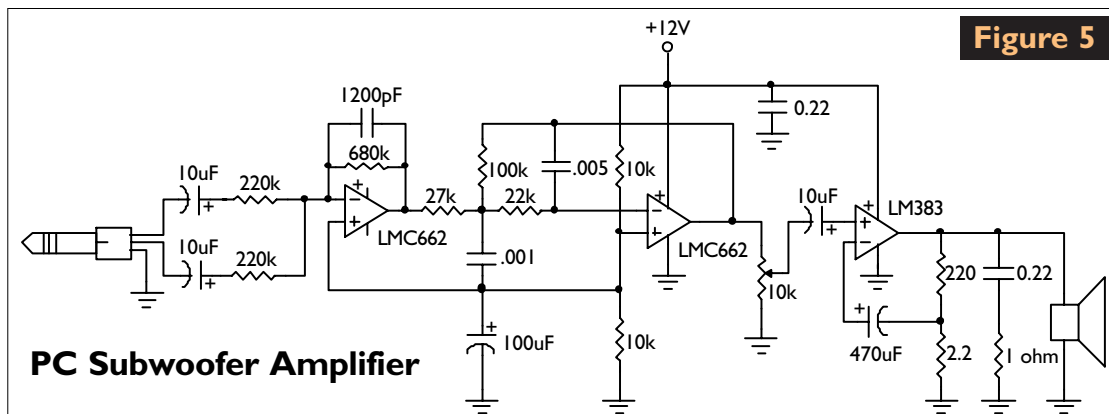

Figure 5
A. A lot of readers had questions about that circuit (see the Mailbag), so let me try again. The original question asked for a low-impedance input to a high-impedance auxiliary amplifier. The input from the speakers was not 100 watts, but rather earphone volume, and the output isn't capable of driving a subwoofer speaker directly. It needs a power amplifier of five watts or better. Figure 5, which is built around the original subwoofer,